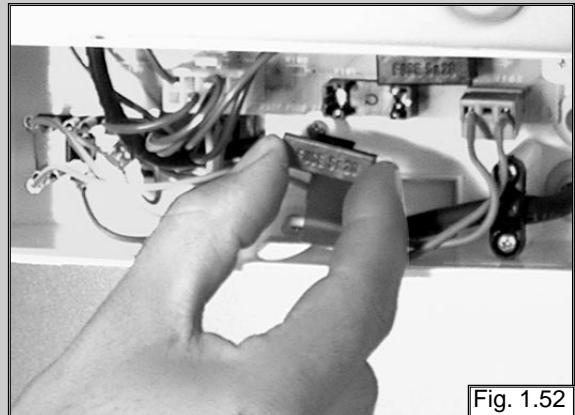

Fig. 1.52
2. Remove fuse (see fig. 1.52).